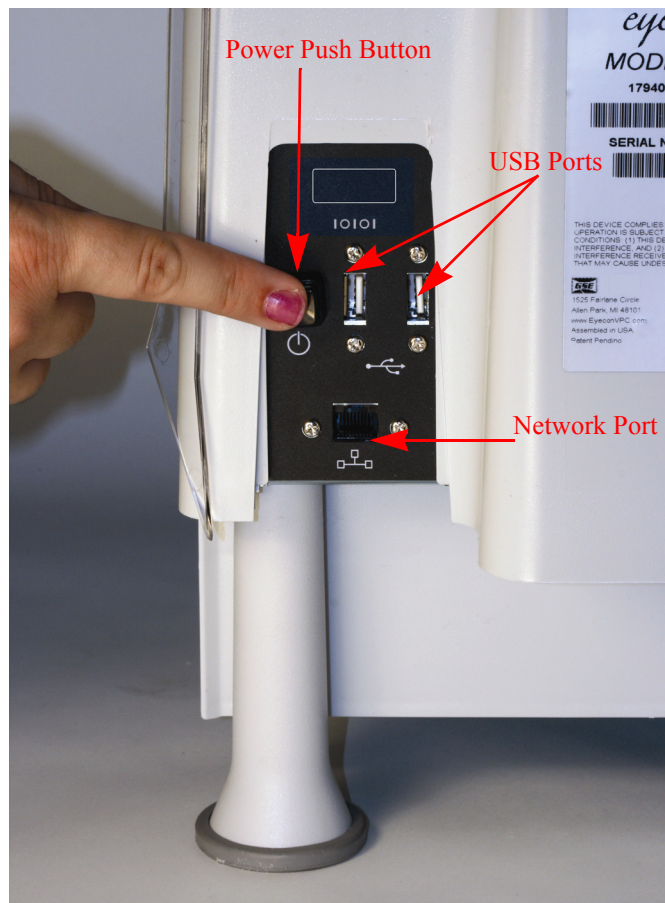

Figure 1.8 Eyecon Back Panel
2. Fully depress and release the power push button to turn on the Eyecon (Refer to Figure 1.8). The display area will illuminate within a few seconds.
If power is lost, fully depress and release the power push button to turn on the Eyecon. Refer to Figure 1.8 for power push button location
If a network cable is to be connected plug it into the receptacle on the back. Refer to Figure 1.8.